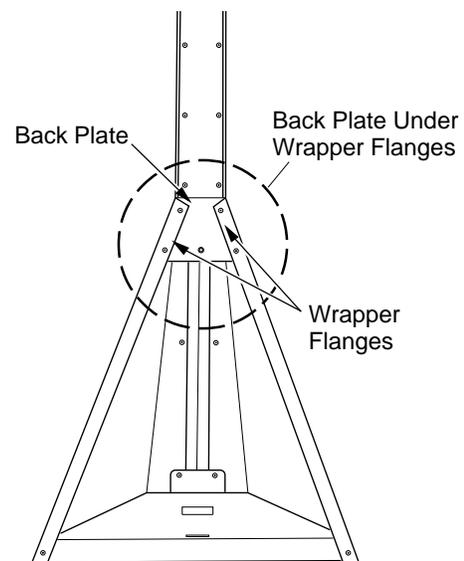

**Figure 3 - Attaching Center Wrapper to Base Assembly**
3. Locate center wrapper. The center wrapper is angled at the bottom and has a hole on either side of the front at the top. Slide J-clips over holes on open side of center wrapper with short side to the outside of center wrapper (see Figure 3).